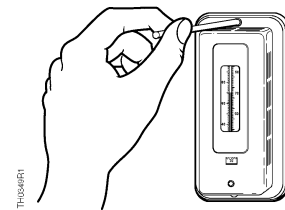

Figure 1. Removing the Thermostat Cover.
1. Remove the two vandal-proof, chrome screws from the thermostat cover using the Cover Screw and Calibration Wrench. See Figure 1.